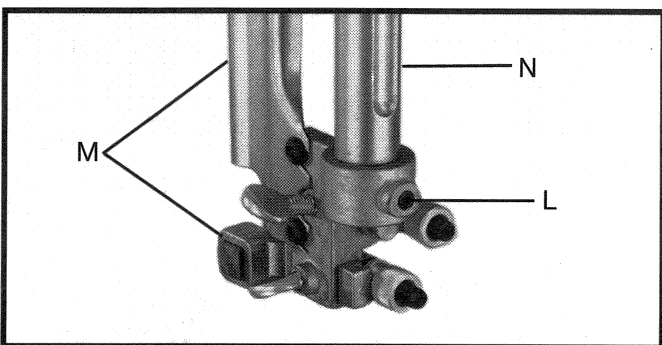

Fig. 9
8. Loosen the set screw (L) Fig. 9 and remove the upper blade guide assembly (M) from the guide post (N).